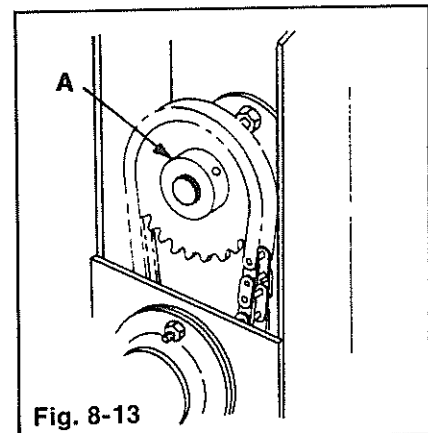
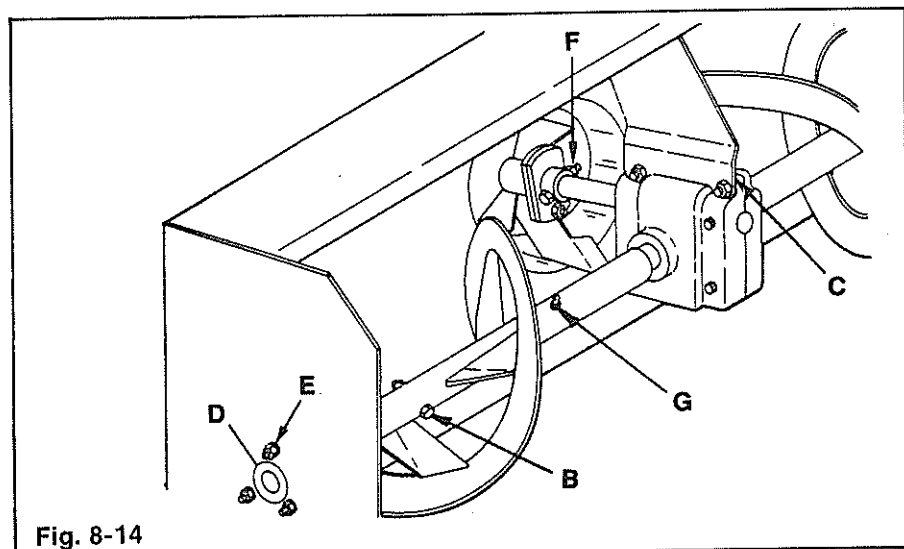

Fig. 8-13
Fig. 8-14
1. Loosen sprocket (A) Fig. 8-13 set screws and locking collar set screws behind sprocket. Loosen locking collar by turning.
2. Remove the (2) hex screws and lock washers (B) Fig. 8-14 of auger shaft.
3. Dissassemble gear box from housing support (C).
4. Loosen both set screws and locking collars of housing bearings (D).
5. Remove (6) carriage bolts, lock washers and hex nuts (E) securing housing bearings.
6. Slide gear case as far as possible to the right side and remove the entire auger shaft assembly. Disassemble rear sprocket (A) Fig. 8-13 and key in shaft as complete shaft assembly is being removed.
3. Place both end housing bearing assemblies (D) onto auger shaft.
4. Insert complete assembly into housing. Assemble square key and sprocket (A) Fig. 8-13 onto rear gear box.
5. Secure gear case to housing support (C) Fig. 8-14.
6. Secure flange bearings (D) to end housings.
8. Tighten locking bearing collar behind sprocket (A) Fig. 8-13 and tighten set screws.
9. Line up rear sprocket (A) and secure with set screws.
10. Tighten locking collar and set screws on each end housing bearing (D).
7. After removing the gear case and auger, disassemble coupling (F) Fig. 8-14 from shaft.